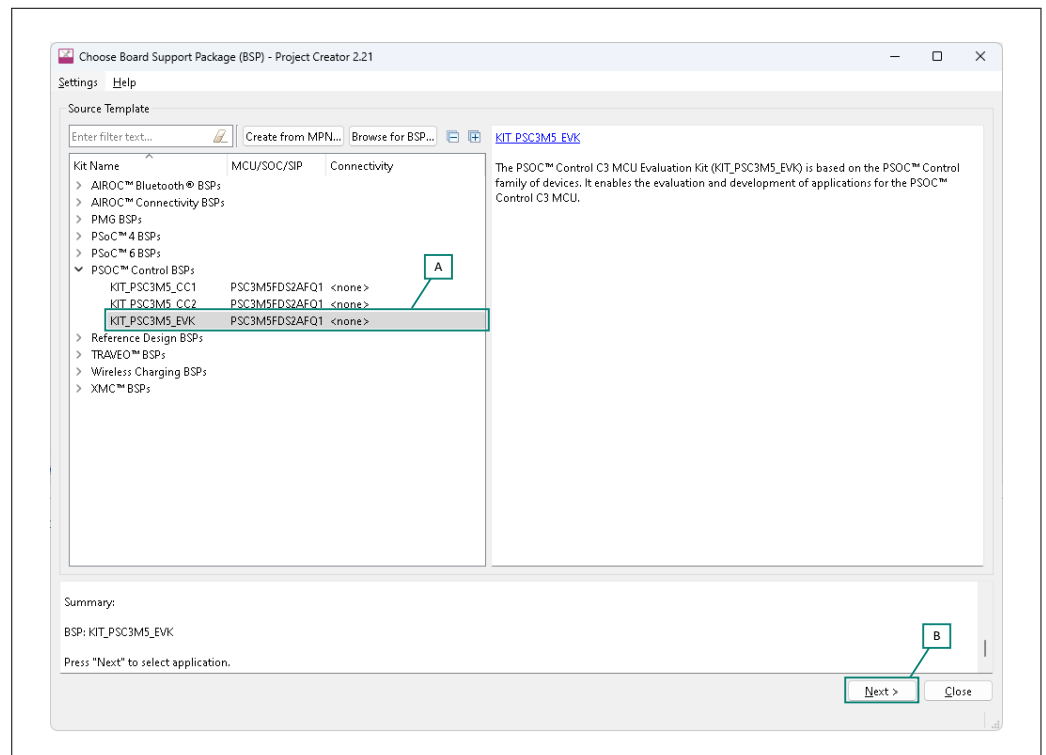

Figure 7 Choose target hardware
- In the **Choose Board Support Package (BSP)** dialog, choose the **Kit Name** that you have. The steps that are followed use **KIT_PSC3M5_EVK**, as shown in Figure 7.